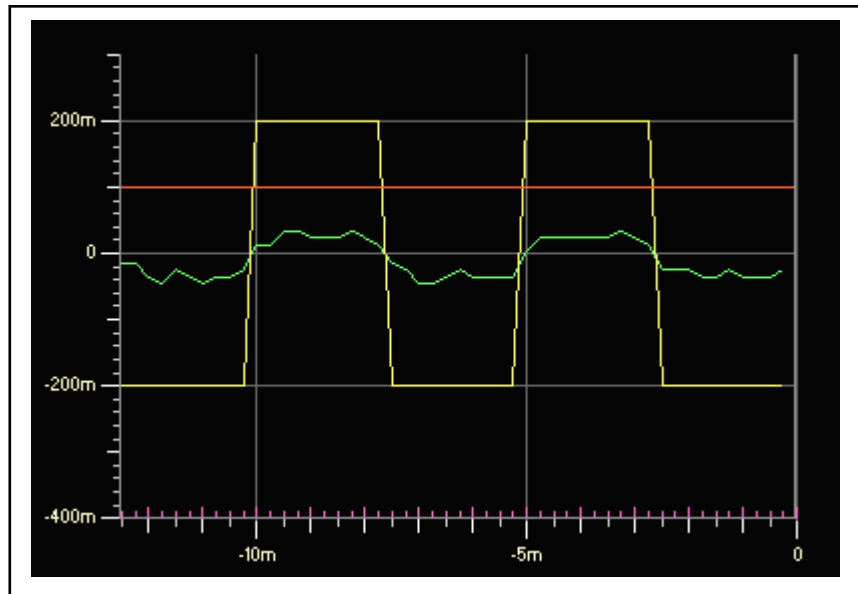

Fig. 4-53: Current loop tuning procedure - initial view
7. The NYCeScope shows a plot like fig. 4-53 "Current loop tuning procedure - initial view" on page 178 after both channels are scaled within viewing range, by using the "pos" and "scale" buttons of each channel and the "Full time" button on the plot window. The yellow curve represents controller out, the green curve represents drive current.